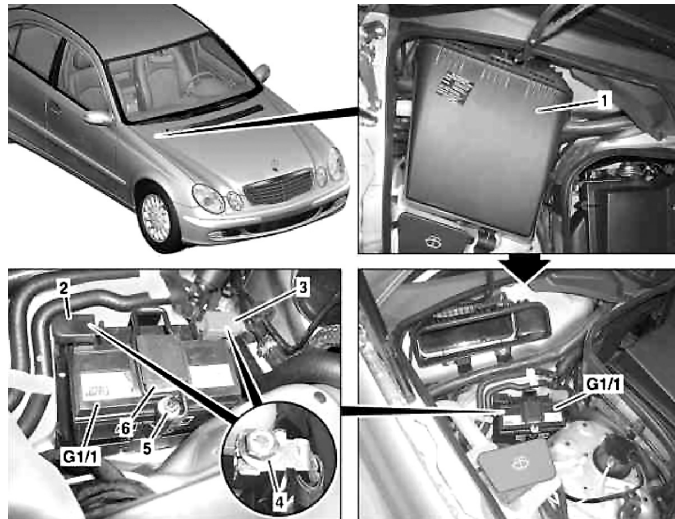

Fig. 2 Auxiliary battery removal
6. Remove housing (1), Fig. 2.
7. Open ground terminal cover (2) of additional battery (G1/1), Fig. 2.
8. Remove bolt (4) of ground line and ground line, Fig. 2.
9. Open positive terminal cover (3) on additional battery (G1/1), Fig. 2.
10. Remove bolt (4) from positive line, Fig. 2.
11. Remove nut (5) and fold bracket (6) upward, **Fig. 2**.
2. Install nut (5) and fold bracket (6) downward, **Fig. 2**.
8. Install housing (1), **Fig. 2**.